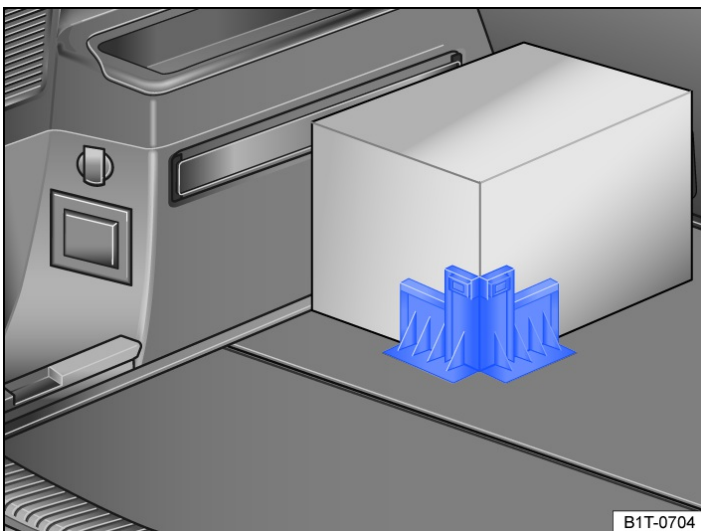

Fig. 2 In the luggage compartment: fixing items in position using the luggage securing corner.
4. Using the Velcro® fastener, secure the luggage securing corner to the luggage compartment floor to fix the carried item in position → *fig. 2*.